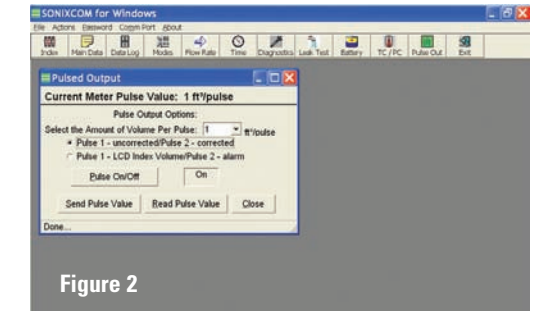

Figure 2
- Make sure the Pulse Output is turned ON (Figure 2)